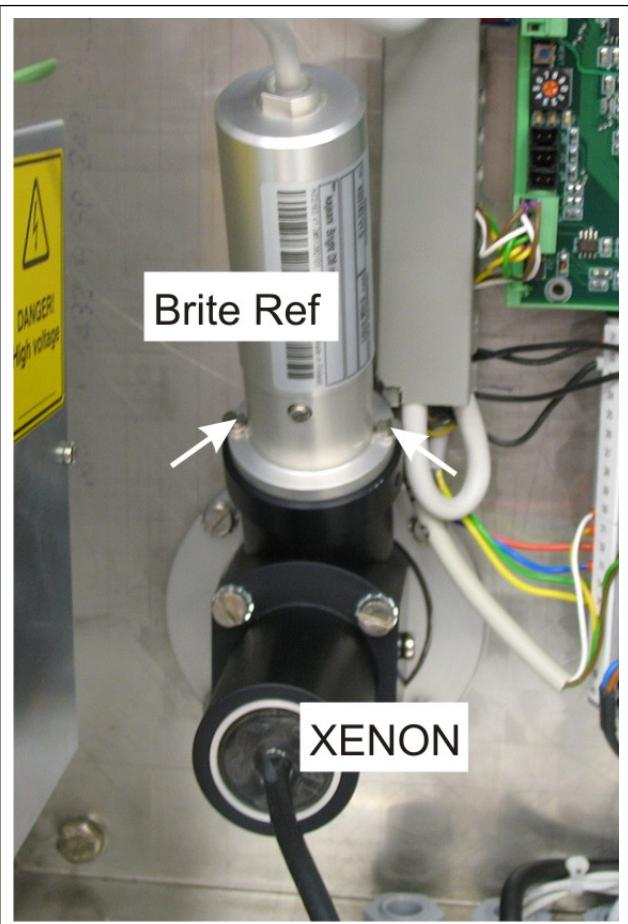

Fig. 9. Fastening Xenon lamp assembly and detector.
3. Press the reference detector into the assembly, be careful not to damage the O-ring. Fasten the detector with 4x12 screws (2 pcs) and install the Xenon lamp (Fig. 9).